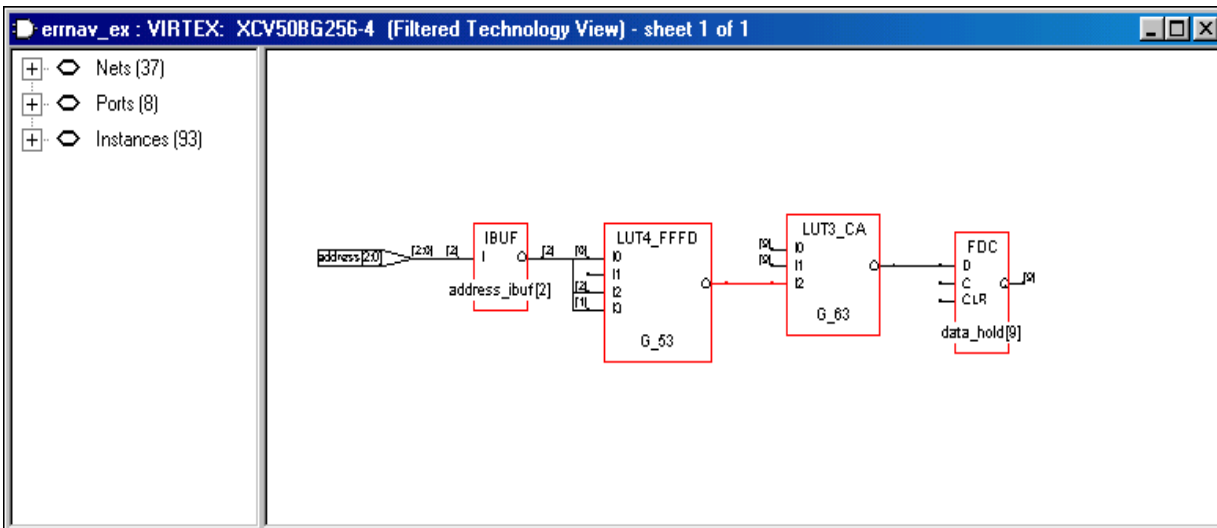

Figure 11: Filtered Path in Synplify Technology View
- To isolate the schematic to show only the selected path, right click on the Technology View window and select **Filter Schematic**. The filtered path is shown in **Figure 11**.